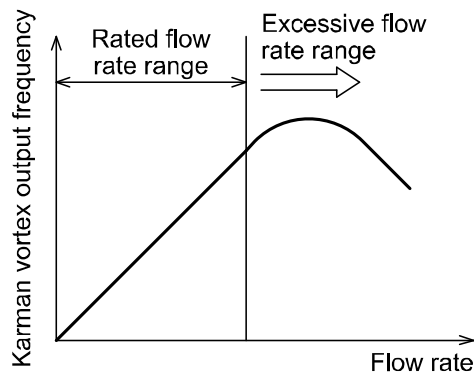

Fig. 1 Output characteristics of the flow rate sensor
- The product uses a Karman vortex to measure the flow rate. Karman vortex has the characteristic to have a decrease in flow rate output when the flow rate is excessive, which may disable accurate flow rate detection and flow rate control. (Fig. 1)